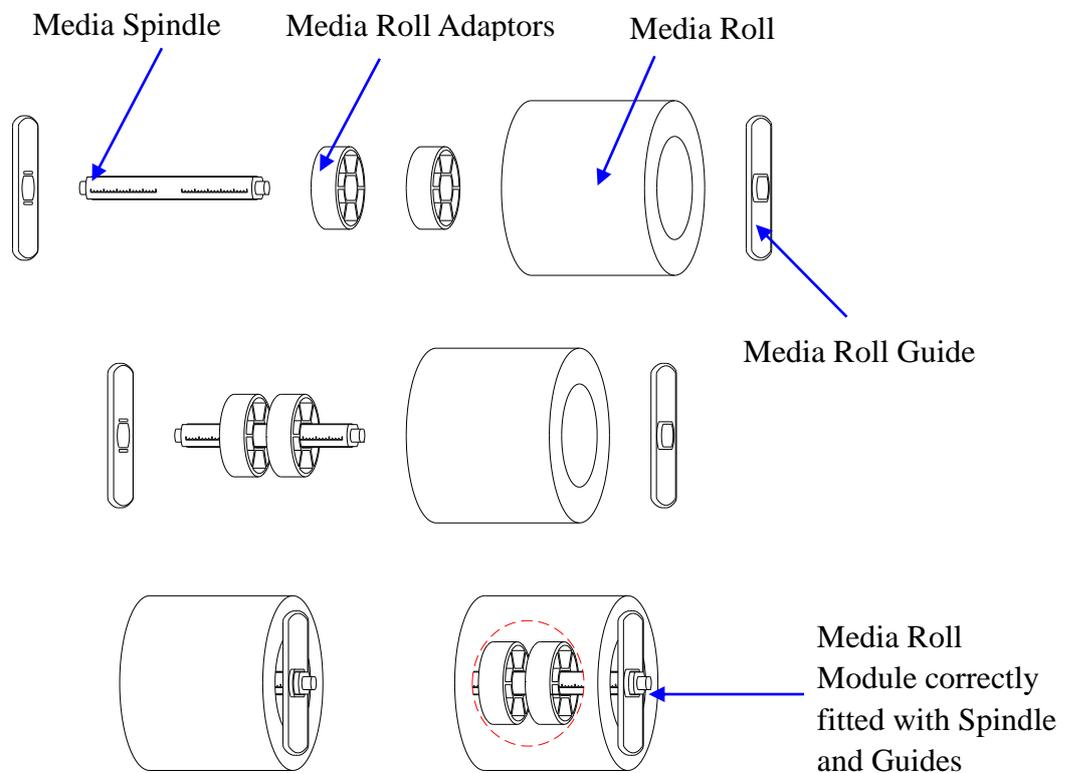

Figure 2-11 Place Media Roll on Media Spindle
1. Load a roll of media (labels facing up) on the Media Spindle, then slide the two Media Roll Guides, with smooth sides facing toward the media, onto the Media Spindle from each end until both Media Roll Guides touch the media. When placing a roll of media with a 3" ID core, please slide the two Core Adapters onto the Media Spindle first, as shown in Figure 2-11.